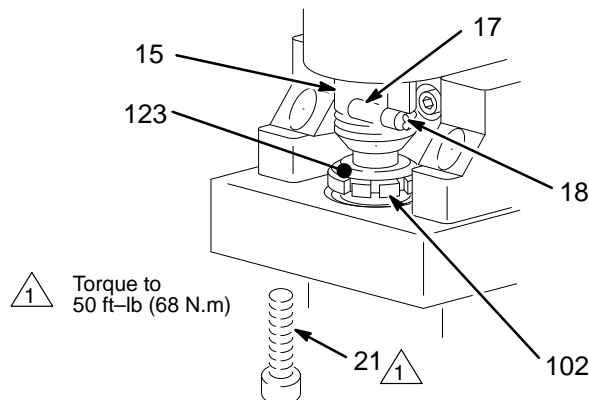

Fig. 17
- a. Remove the pump connecting rod pin (17). See Fig. 17, page 22.
11. **Break in the brushes.** Operate the sprayer for at least one hour with no load. Install the pump connecting rod pin. See Fig. 17, page 22.
Be sure the retaining spring (18) is firmly in the groove all the way around, to prevent the pin (17) from working loose due to vibration. See Fig. 17.